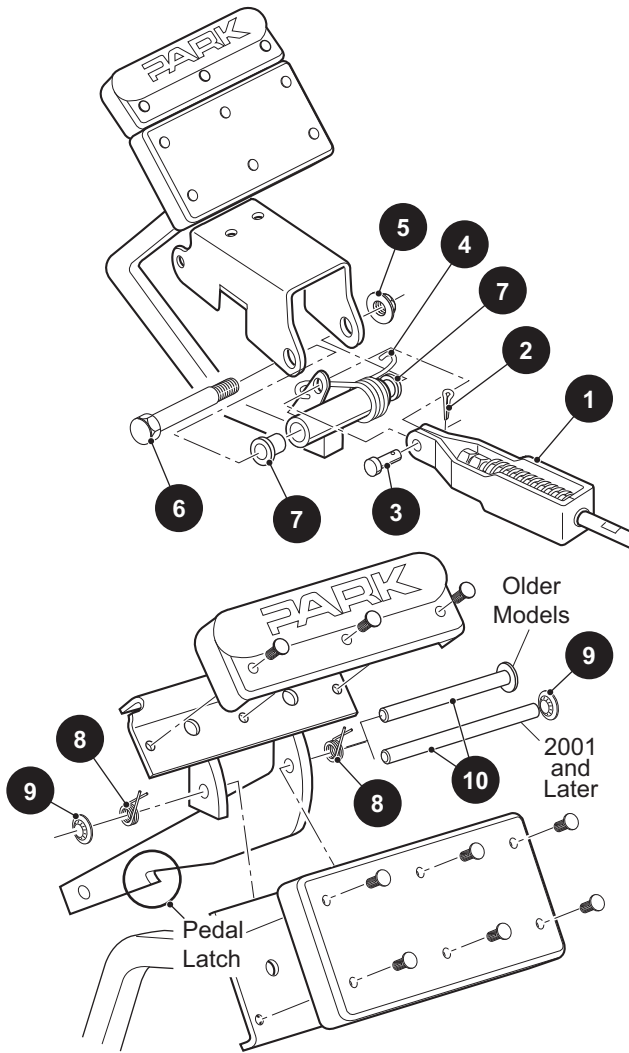

Figure 25 Brake Pedal Removal and Installation.
Disconnect the compensator assembly (1) from the brake pedal by removing the cotter pin (2) and the clevis pin (3). Unplug the wiring harness on models equipped with brake lights. Unhook the torsion spring (4) by inserting a thin blade screwdriver between the small hook and the bracket. Move the hook back and to the side to release the torsion spring (Figure 25).
Note the location and orientation of the two torsion springs (8). Remove the push nut (9) and pin (10) (Figure 25) and remove the parking brake pedal. Some models may use two push nuts on the pin.